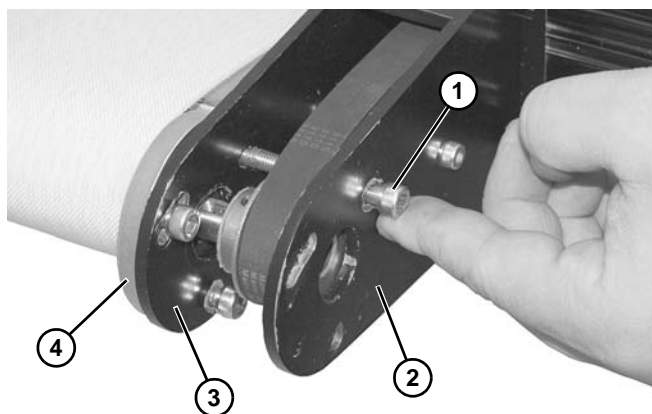

Figure 9
11. Install long screw (Figure 9, item 1) through slotted hole in front (Figure 9, item 2) and rear (Figure 9, item 3) plate into mounting plate (Figure 9, item 4).